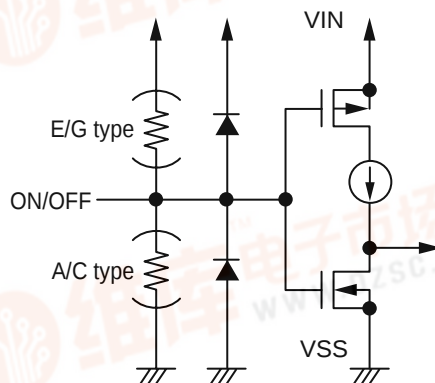

Figure 24
The ON/OFF pin is configured as shown in **Figures 24** and **25**. In the S-1711 Series A/ C/ E/ G types, the ON/OFF pin is internally pulled up or pulled down to V_{SS} when in the floating status, so the VOUT pin is set to the V_{SS} level. In the S-1711 Series B/ D/ F/ H types, the ON/OFF pin is not internally pulled up or pulled down, so do not use these types with the ON/OFF pin in the floating status. When the ON/OFF pin is not used in the S-1711 Series B/ D/ F/ H types, connect the pin to the VIN pin in the B/ D types, and connect it to the V_{SS} pin in the F/ H types.
*1. Note with caution that the power consumption of the IC is higher by that to be input to pull-up resistance or pull-down resistance the power off pin when the S-1711 Series A/ C types operated with the ON/OFF pin connected to VIN and the S-1711 Series E/ G types with the ON/OFF pin connected to V_{SS} (refer to **Figure 24**).